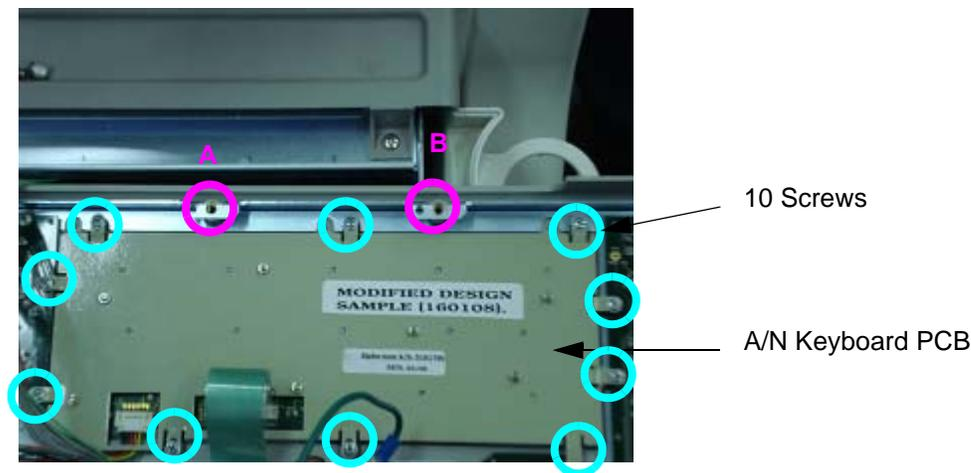

Figure 8-11 A/N Keyboard PCB
3. Remove the keyboard top hinge by unfastening the 2 screws marked A & B in Figure 8-11